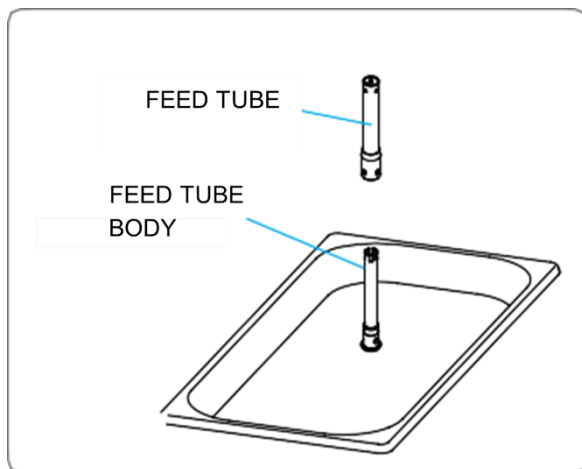

Figure 37
- With sanitized hands, replace the feed tube into the mix hopper. (Figure 37)